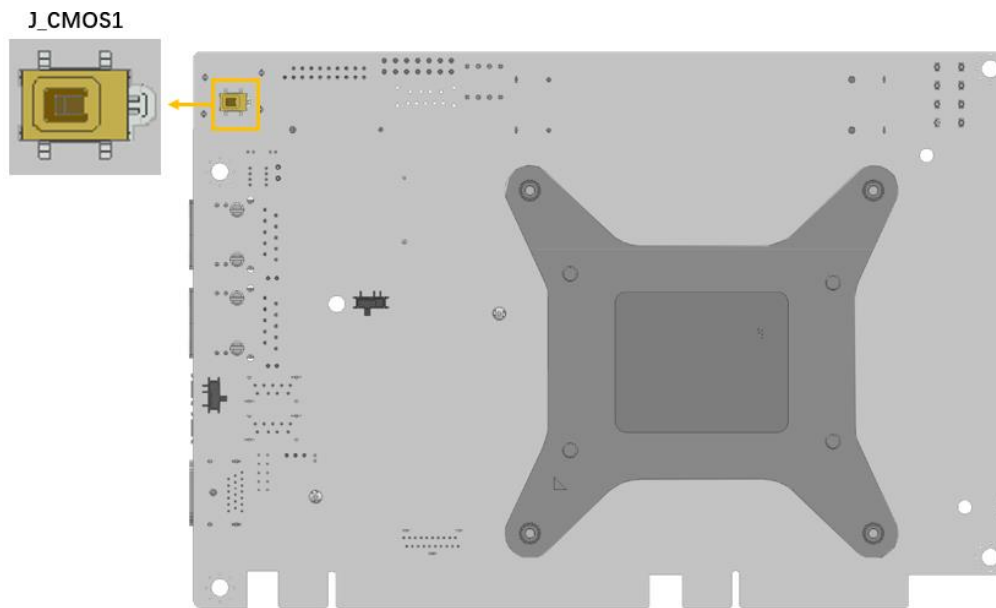

Figure 3-6: Clear CMOS Jumper Location
- CN Location:** See **Figure 3-6**